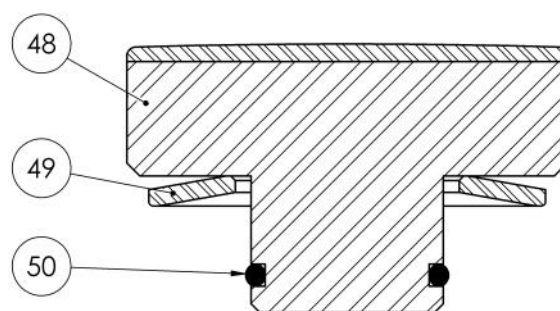

Fig. 52: Thrust pad set
- Find the thrust pad (47) with an anti-rotation pin and a hole for thermo sensor. Then locate the corresponding slot in the pad ring (45).
- Check the mobility of all thrust pads. If the thrust pads grips, realign the pad ring (45).
Note: The thrust pad set (47) consist of a thrust pad (48), an o’ring (50) and a spring washer (49) (Fig.52).